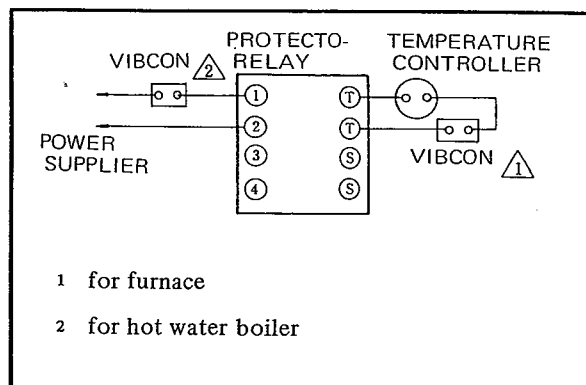

FIG. 5 HOOK-UP FOR PROTECTORELAY
5. When Honeywell protectorelay is used, connect to T-T for the furnace application and connect to 1 – power supply for the hot water boiler application. (see Fig. 5)